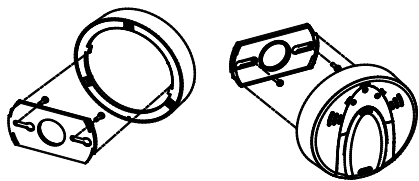

Figure 2.
**To install the CO alarm (See figure 2 as below):**